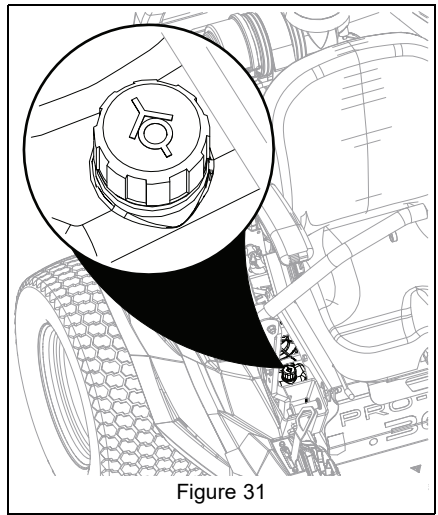

Figure 31
See Figures 31 and 32.
3. Fill expansion tanks with HT-1000 Full-Synthetic Hydraulic Fluid (Gravely p/n 00058400) until oil reaches the cold fill indicator mark. See Figure 31.